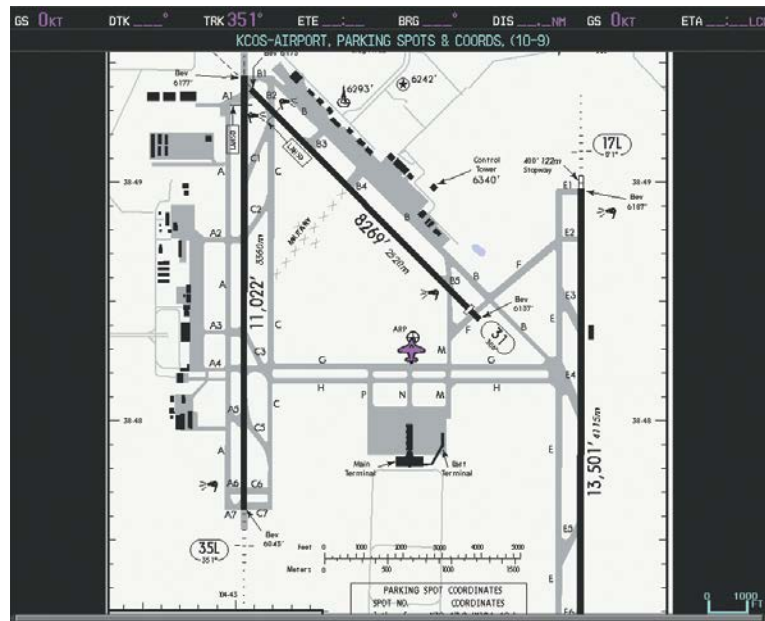

Figure 8-10 Airport Chart for Selected Airport
- 3) Touch the **Airport Chart** Button. The **Info** Tab selections are displayed on the Touchscreen Controller (Figure 8-6) and the Airport Diagram is displayed on the selected Display Pane (Figure 8-10).